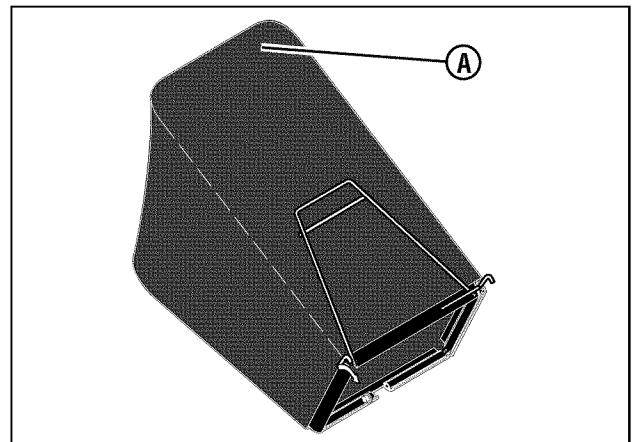

Figure 7: Closing the elastic top cover
4. Close the elastic top cover (**A, Figure 7**). When operating the mower with the grass bag, the elastic top cover must be in the closed operating position.